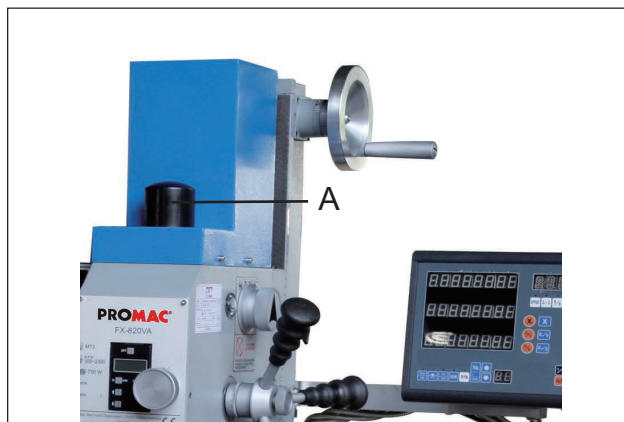

Fig. 14
2. The protective cap (A, Fig. 14) on the head shall remove.